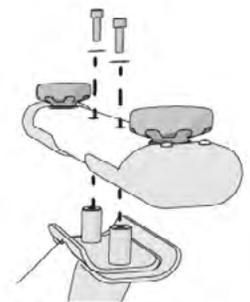

Figure 2
2. Attach the rear stabilizer to the frame using two bolts **1** and two washers **2** (Figure 2).